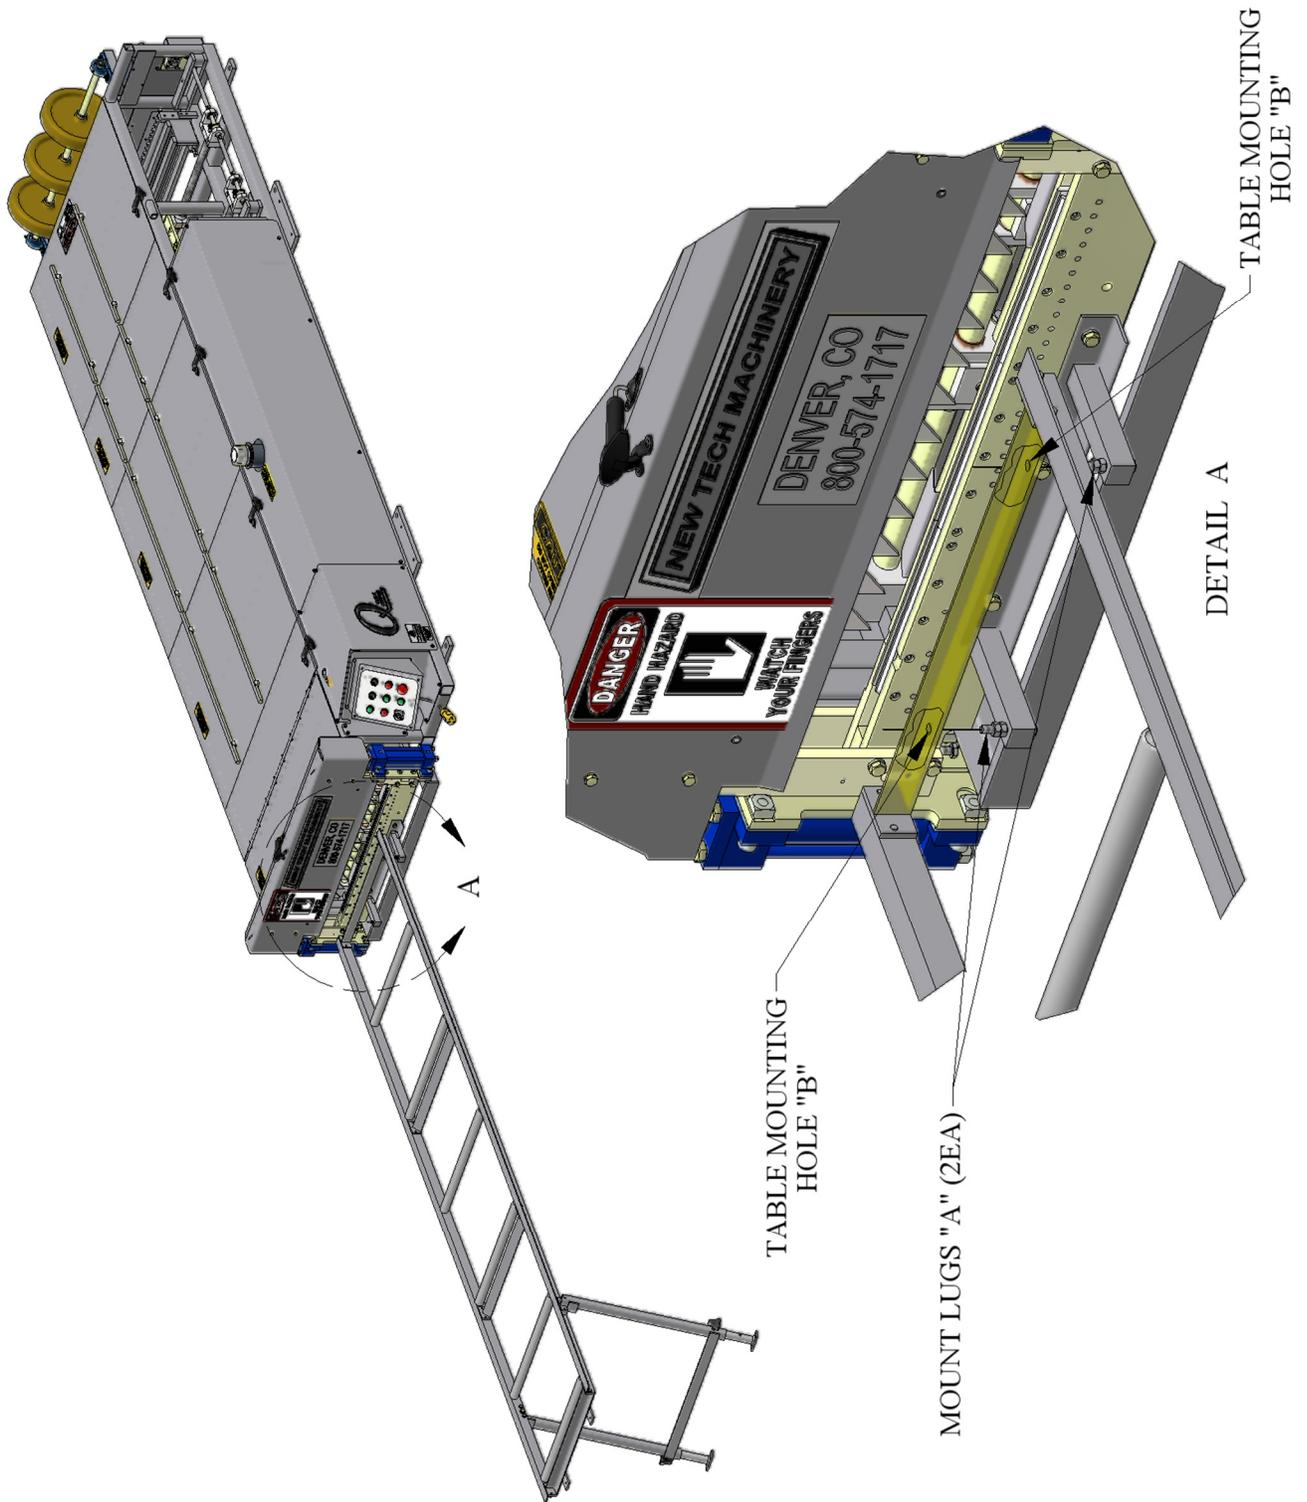
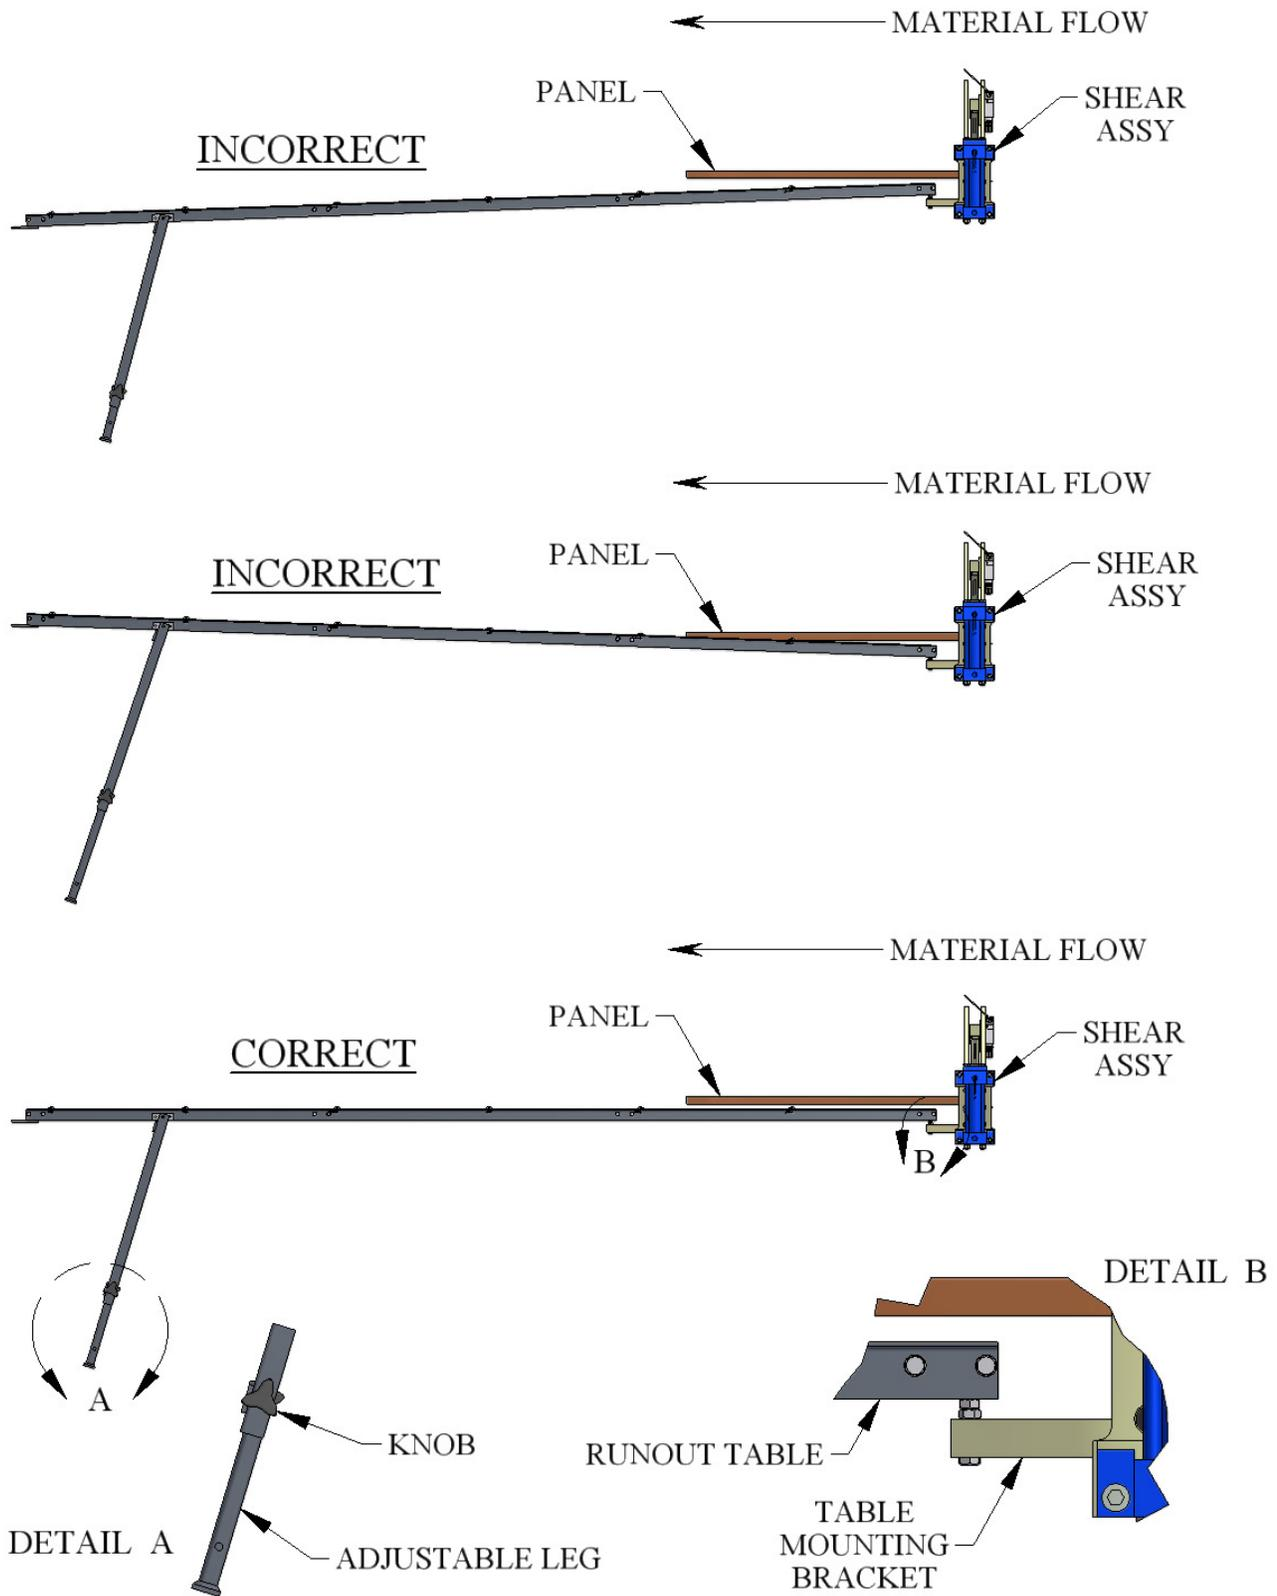

Figure 113: Run Out Table
Figure 114: Run Out Table Setup
(Figure 113 & Figure 114)
4. Loosen the 2 knob-handles on the leg assembly and allow the legs to fall free. Sight the height of the table on the left and right side adjusting it level to the machine using the knob-handles to lock the legs in place. See Figure 114 for correct and incorrect set up and details.